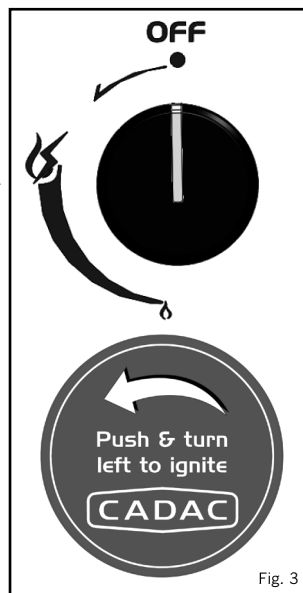

Fig. 3
- Use the control knobs to adjust the individual burner flame intensity to the desired level by turning the knob anti-clockwise to decrease the flame and clockwise to increase it (see fig.3).